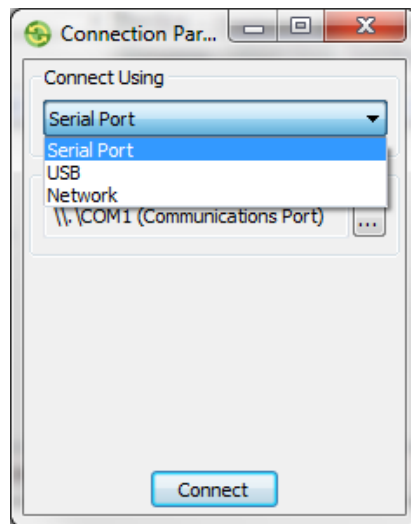

Figure 4: Connection Parameters Dialog Box
7. Click **Connect** to establish a connection to your device (Figure 4).